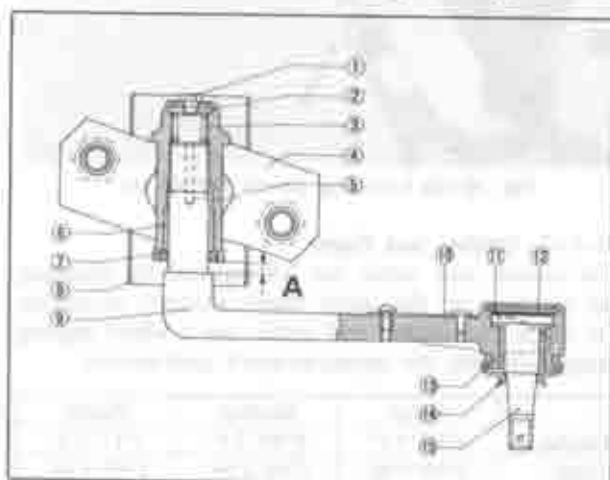

Fig 10-20 Idler arm
9. Screw the idler arm into the bracket until the distance "A" between the idler arm edge and the bracket, as shown in Fig. 10-20, becomes **6.0 mm (0.236 in)**.